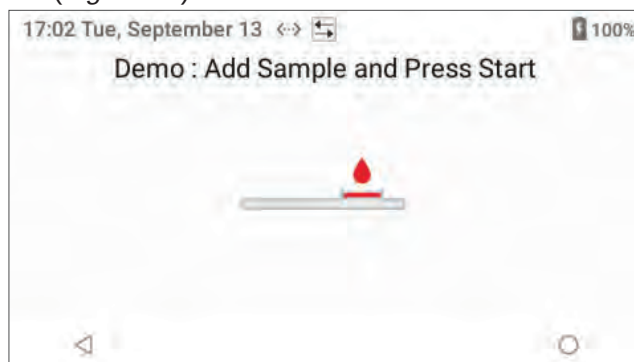

Figure 44: Demo – Add Sample and Press Start
- 3 The demo displays  (Apply Sample to Test Cartridge), indicating the instrument is ready for the sample to be applied (Figure 44).